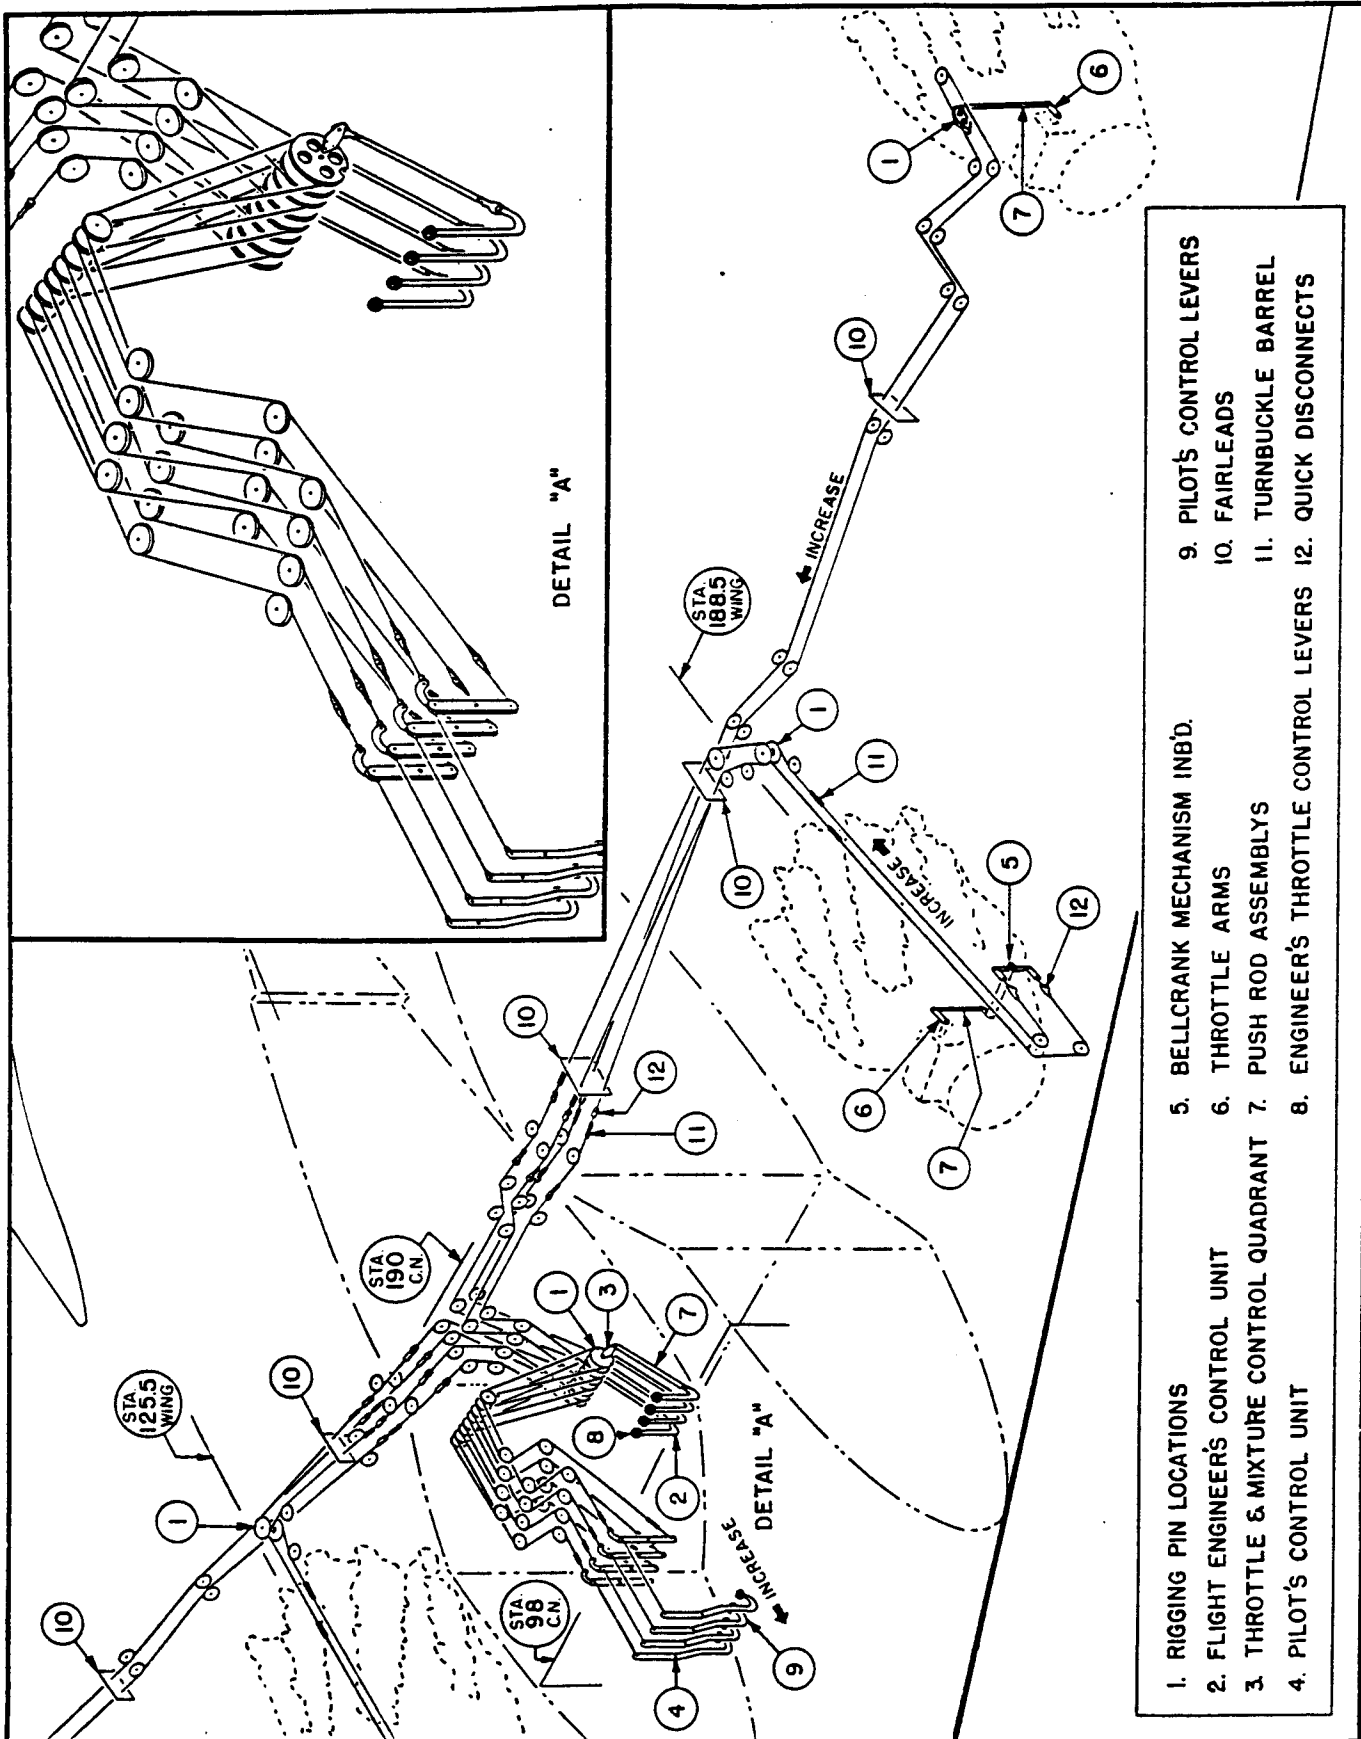

Figure 1. Throttle Control System
9. ENGINE CONTROLS. (See figures 1 thru 3 inclusive.)
b. TROUBLE SHOOTING.- Refer to Section IV, paragraph 7 b (2).
c. THROTTLE. (See figures 1, 4, and 6.)
(1) DESCRIPTION.- Two sets of throttle levers are linked to the carburetor as illustrated in figures 1 and 4. One set is located at the flight engineer's station and the other set between the pilot and copilot. Since the systems are mutually inter-connected any movement of one lever will produce a similar movement in the corresponding lever. Micro switches (further described in paragraph 5) attached to the throttle quadrant, cause a horn to blow whenever the throttles are retarded below cruising rpm and all three gears are not down and locked.
(2) REMOVAL.
Access to the majority of engine cables may be attained through the engine bays. In other instances cable access may be attained through access holes. Refer to Section III, figure 1.
(3) INSTALLATION. (See figure 1.)